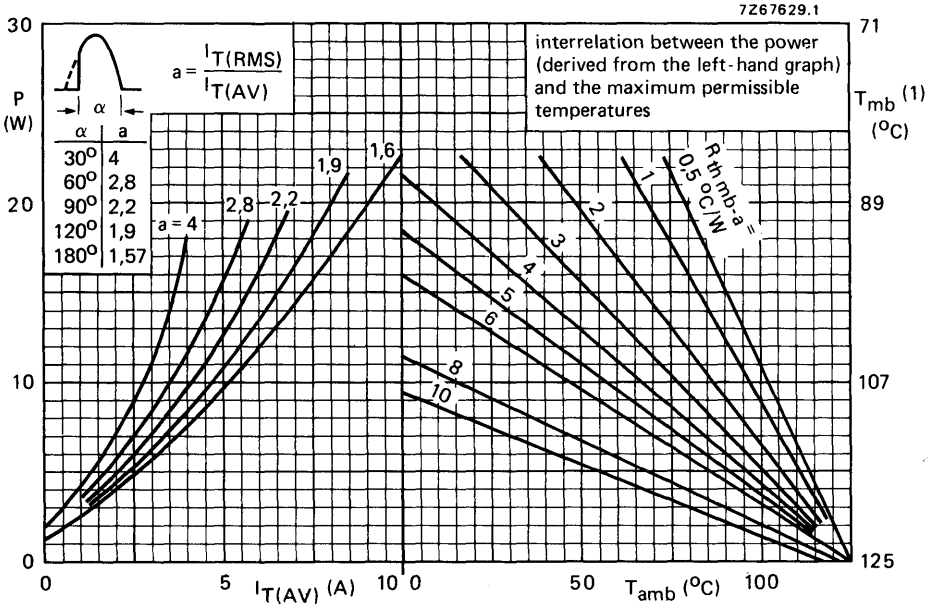

Fig. 3 (1) T_{mb} -scale is for comparison purposes only and is correct only for $R_{thmb-a} \leq 6 \text{ } ^\circ\text{C/W}$.
* To ensure thermal stability: $R_{th j-a} < 4$ °C/W (d.c. blocking) or < 8 °C/W (a.c.). For smaller heat-sinks $T_{j max}$ should be derated. For a.c. see Fig. 3.